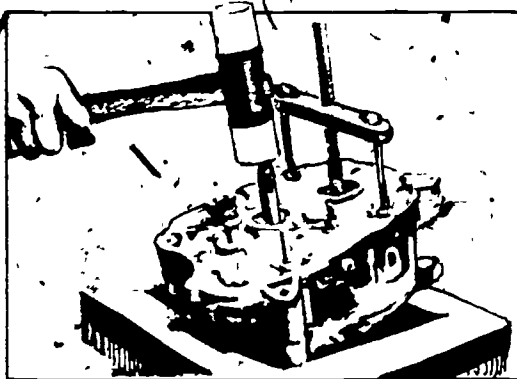

FIGURE 4
- 2) Tap the transmission mainshaft with soft face hammer (Figure 4)